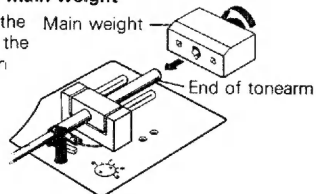

Fig. 5
1. To mount the main weight rotate the black knob in the direction indicated by the arrow in fig. 5.